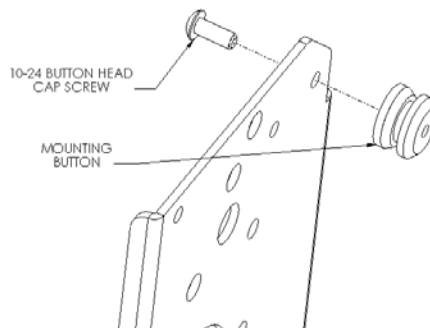
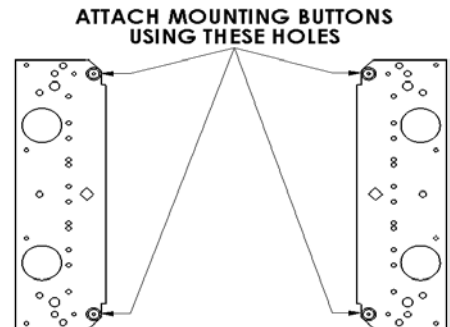

Figure 2
Figure 3
2. Using a 10-24 x 1/2" button head cap screw inserted from back side of bracket through holes, secure mounting button, with chamfered hole of mounting button (larger surface) facing bracket, to bracket (four places) (see Figure 2 and Figure 3).